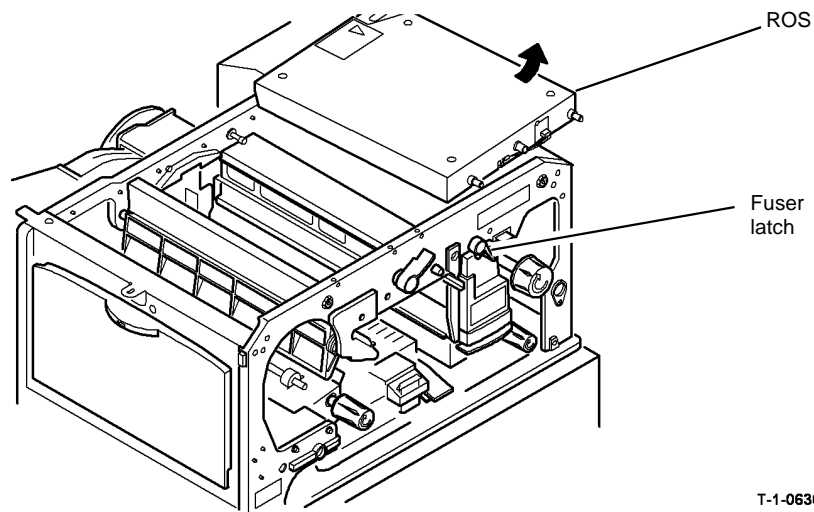

Figure 1 Move the ROS
3. Refer to **REP 6.1** and move the ROS to the side, **Figure 1**.